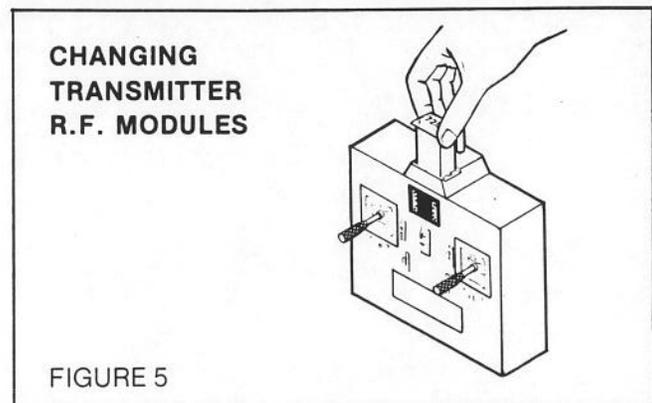

FIGURE 5
1. Pull the R.F. module out of the antenna post assembly by using thumb and index fingers (Fig. 5).